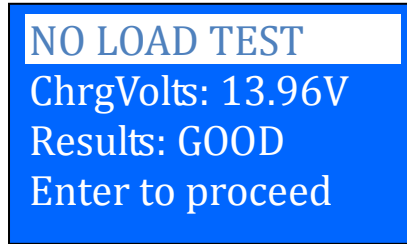
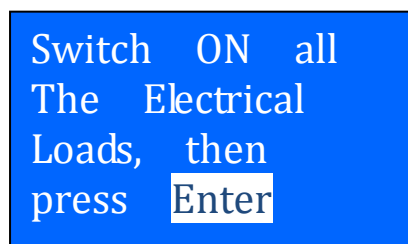

Figure 55
Figure 58
6. Press  key will show the results of the test (Figure 55):
8. Continue from the previous test (either Fig. 55, 56 or 57); proceed to the next step by pressing  key will enter to the display as follows. (Fig.58)